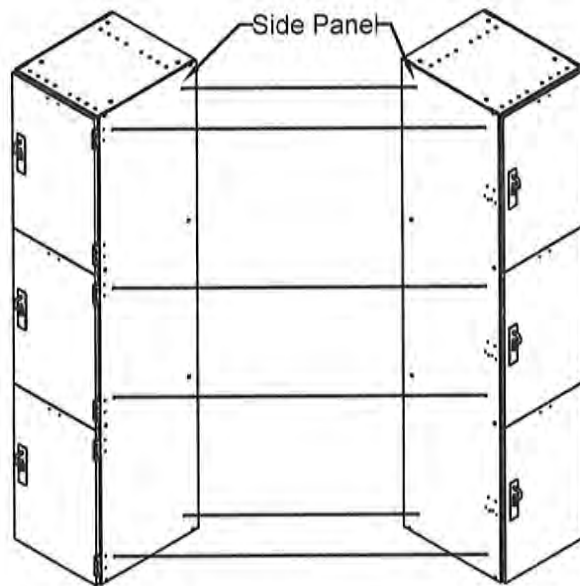

Figure 6.1 Connector Bolt & Nut Holes
- 6.3 Starting in the corner or wall where the run of lockers begin, stand two lockers up and thru-bolt the side panels together. Use the locker connecting bolts and barrel nuts provided. There will be 6 fasteners for each side to side locker connection, see Figure 6.1.